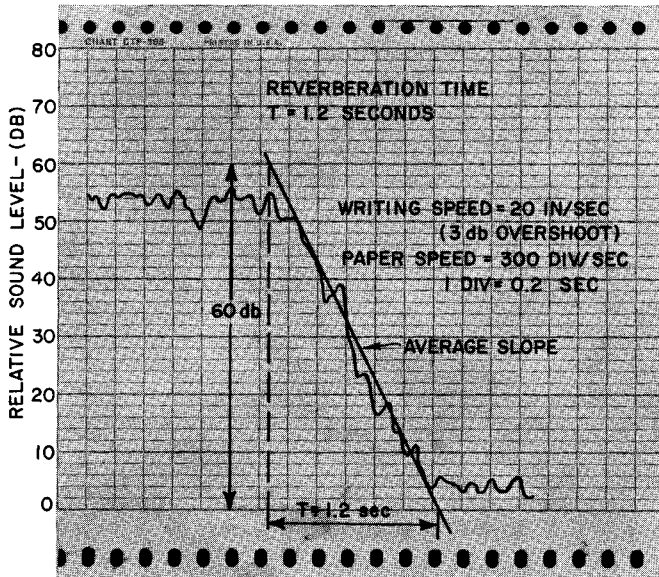

Figure 5.5. Reverberation time for 1/3-octave band of noise at 500 cps.
5.4) or reverberation time (Figure 5.5). The Type 1521-B will record decay rates as fast as 200 db per second (reverberation time of 0.3 second). When it is necessary to observe the beats during the sound decay, the decay rate should be limited to 120 db per second. (Refer to paragraph 4.8 for discussion of maximum decay rates.) When the Type 1521-B is used with a multiple-speed tape recorder, much faster decay rates can be recorded (as described later in this section).
Read reverberation time from the chart in the following manner (see Figure 5.5):